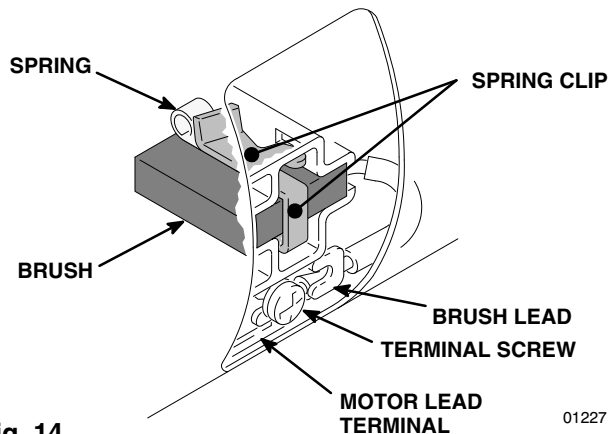

Fig. 14 01227
4. Loosen the brush lead terminal screw. Pull the brush lead away, leaving the motor lead terminal in place. Remove the brush and spring. See Fig. 14.
7. Slide the terminal under the terminal screw washer and tighten the screw. Be sure the motor lead is still connected at the screw. See Fig. 14.